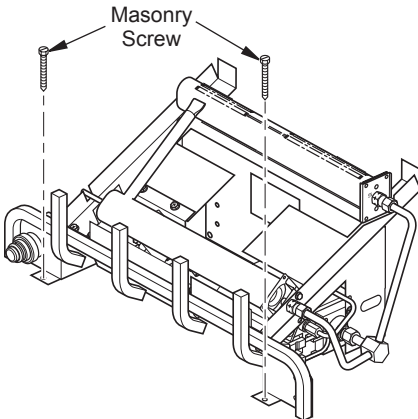

Figure 11 - Attaching Base to Fireplace Floor
3. Mark screw locations through holes in front panel of base (see Figure 11). If installing in a brick-bottom fireplace, mark screw locations in mortar joint of bricks.
6. Attach base, through holes in front panel of base, to fireplace floor using masonry screws provided in hardware package (see Figure 11).